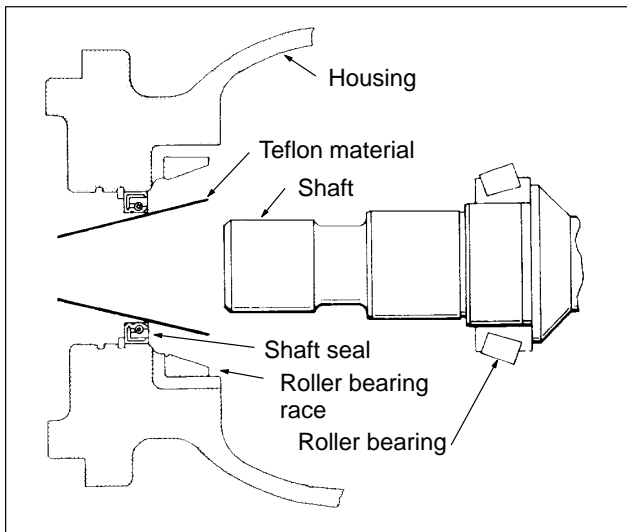

Figure 28: Shaft Installation
The following step describes the assembly of shaft (39) into housing (51). Refer to Figure 28 during this process.
5. If yoke (40) was removed from housing (51), assemble the yoke into housing as follows:
b. Insert yoke (40) into housing (51).
6. Install shaft (39) as follows:
a. Lubricate roller bearing (44) and shaft (39). Assemble roller bearing (44) on shaft (39).
b. Take a piece of shim stock or Teflon material (8" x 3" x .003") and roll it into a funnel shape. Insert the Teflon material into the shaft seal (46) as shown in Figure 28.
c. Install shaft (39) into housing (51). (Note: The Teflon material will be forced out of shaft during this process.)